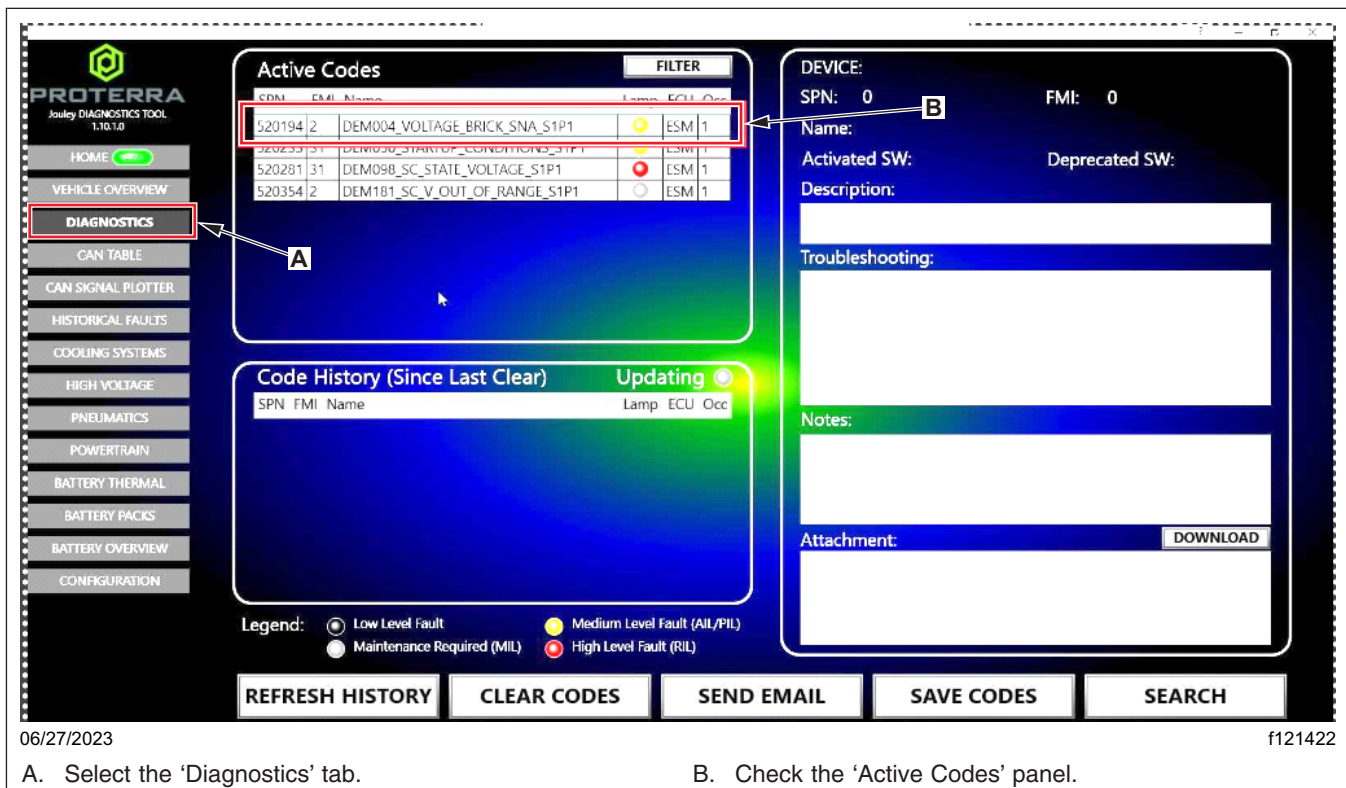

Fig. 1, Proterra Jouley Diagnostic Tool
5. Check the 'Active Codes' panel for the presence of the following suspect parameter numbers (SPNs). See Fig. 1.